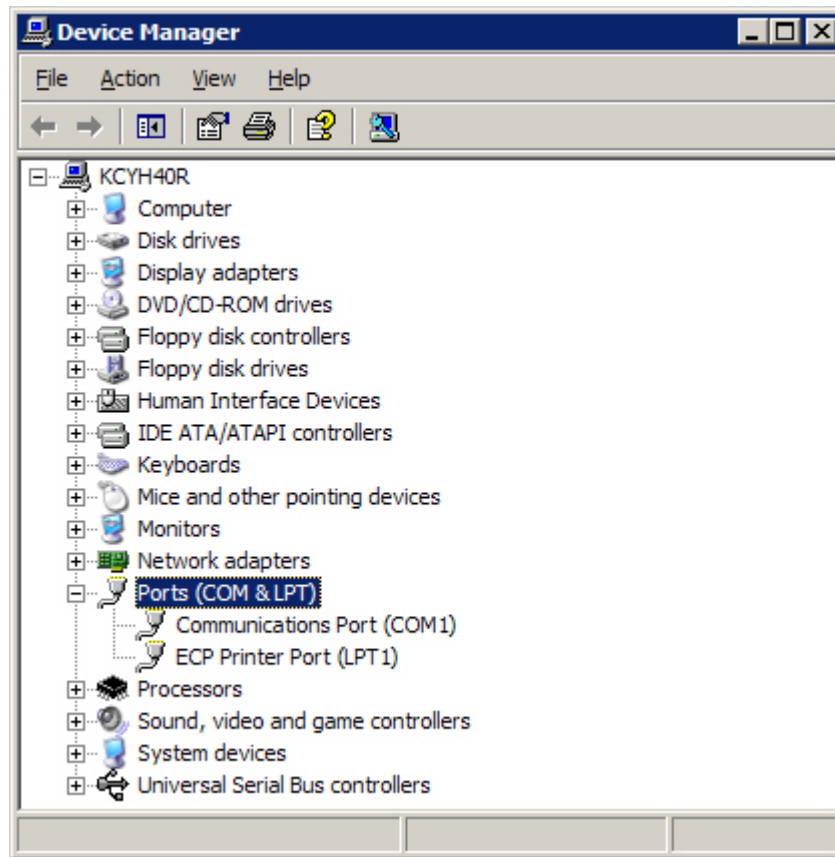

Figure 3. Device Manager window
3. Click **Device Manager**. The Device Manager window opens (see Figure 3).
4. Expand **Ports (COM & LPT)** (see Figure 3).